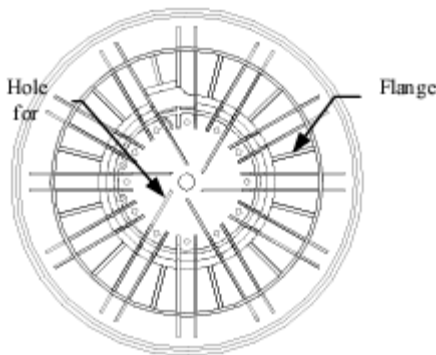

Figure 5
10. Pull new hose through hole in the flange of the reel (Fig. 5).